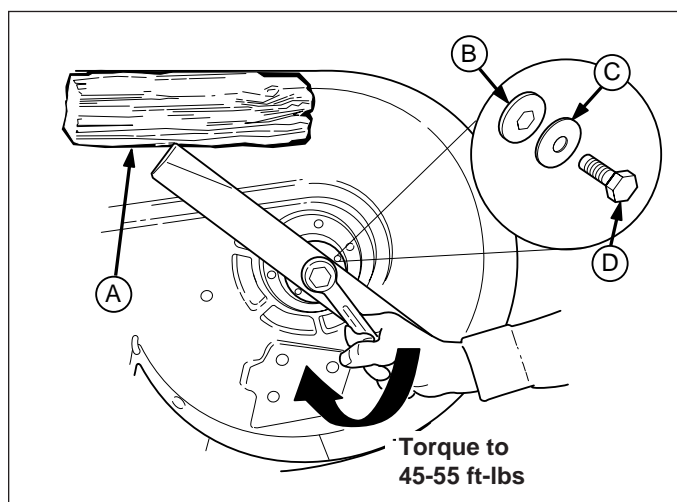

Figure 21. Installing The Blade
6. Reinstall each blade with the tabs pointing up toward deck as shown in Figure 21. Secure with a cap screw (D), cup washer (C) and hex washer (B). Use a wooden block to prevent blade rotation and torque cap screws to 45-55 ft-lbs (61-75 N-m).